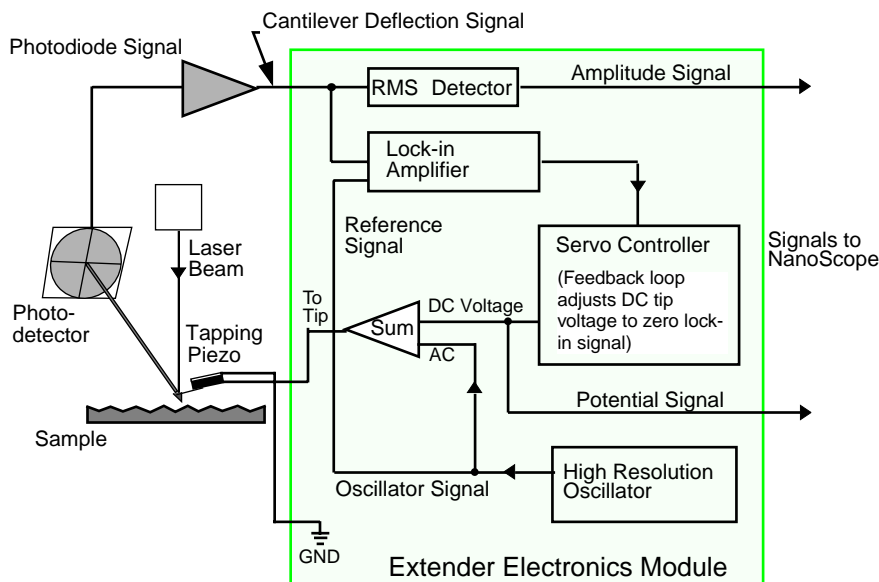

Figure 14.22. Simplified block diagram of extender electronics module in surface potential mode.
2. Locate the jumpers on the electronic board, visible in a "window" on the bottom of the MultiMode per Figure 14.5. As shipped from the factory, the baseplate jumpers should appear as shown in Figure 14.22.
When voltage is applied directly to the sample, there is no need to reconfigure the jumpers. They should remain jumpered as shipped from the factory (Figure 14.22), and the sample should be electrically insulated from the chuck.